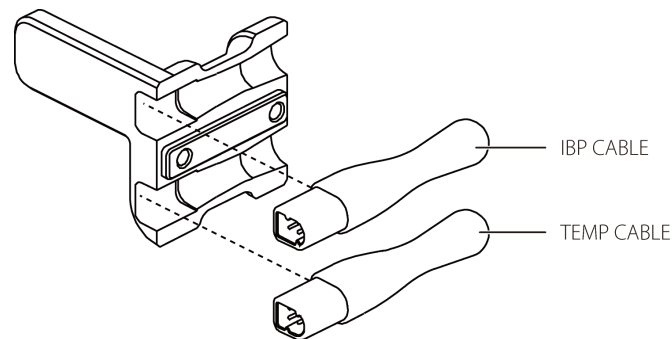

FIGURE 11-6 Camino Mounting Bracket Cable Insertion
2. Insert the two cables into the bracket base (as shown in FIGURE 11-6).